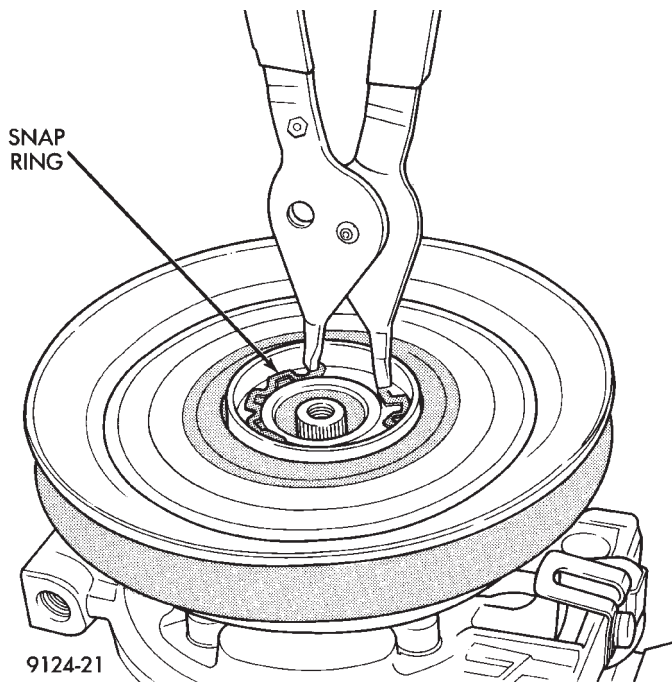

Fig. 3 Removing Pulley Snap Ring
- (3) Remove pulley retaining snap ring with Snap Ring Pliers (C-4574), and slide pulley assembly off of compressor (Fig. 3).
- (4) Remove coil wire clip screw and wire harness.